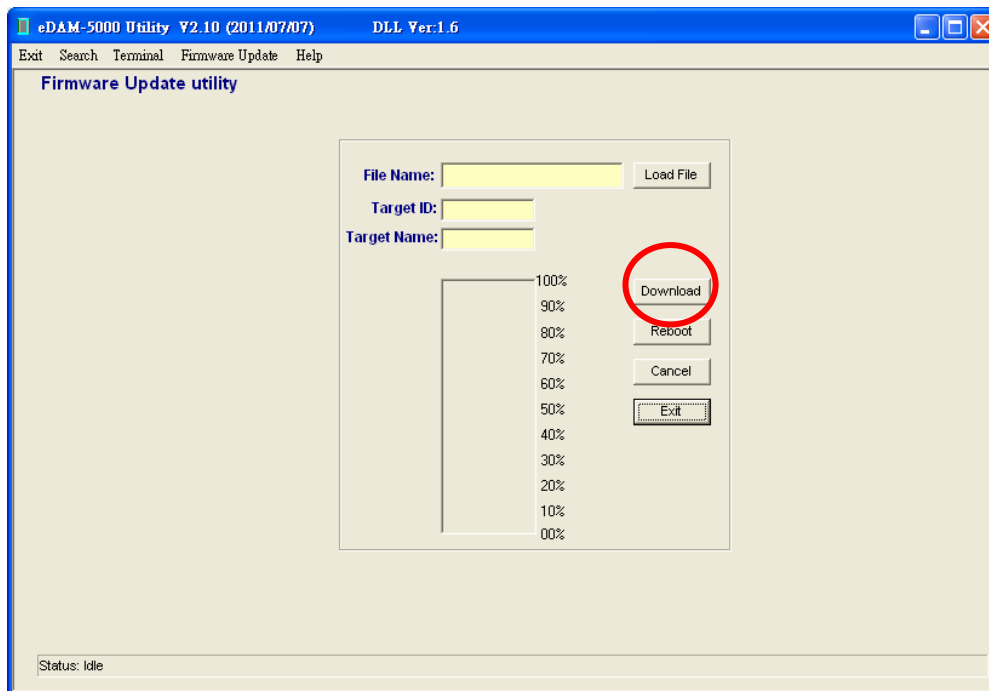

Figure 15-7
7. Click **“Download”** button to start to update firmware (see Figure 15-7)